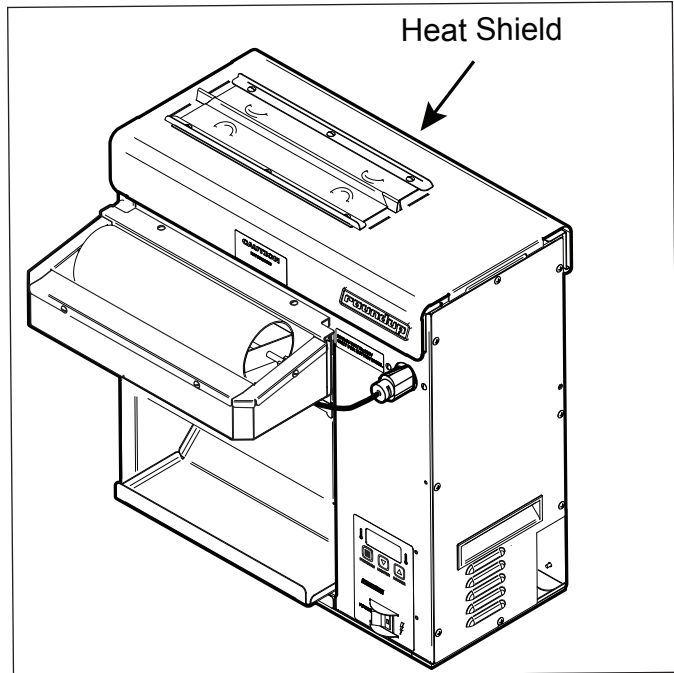

Figure 7. Heat Shield
2. Put on heat-resistant gloves and remove the Heat Shield (Figure 7).